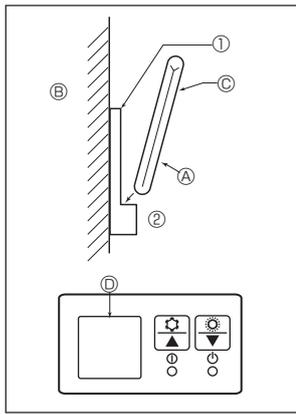
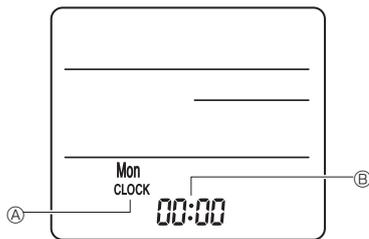

Fig. 6-7
Fig. 6-8
2) Installation method (Fig. 6-7)
- ① Attach the remote controller holder to the desired location using 2 tapping screws.
- ② Place the lower end of the controller into the holder.
3) Setting (Clock setting) (Fig. 6-8)
- ① Insert batteries or press the **CLOCK** button with something sharp. [CLOCK] Ⓐ and [:] Ⓑ blinks.
- ② Press the **RESET** button with something sharp.
- ③ Press the **↓** button to set the time. Press the **DAY** button to set the Day.
- ④ Press the **CLOCK** button with something sharp at the end. [CLOCK] and [:] lit.